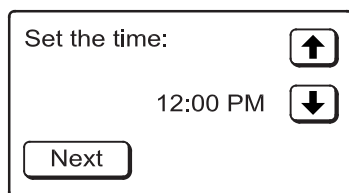

FIG. 16
2. CURRENT TIME: Press the DOWN (↓) or UP (↑) buttons to set the current time (See Figure 16). Hold the button down to rapidly advance. Be sure AM or PM is correct. When the current time is shown, press the NEXT button.